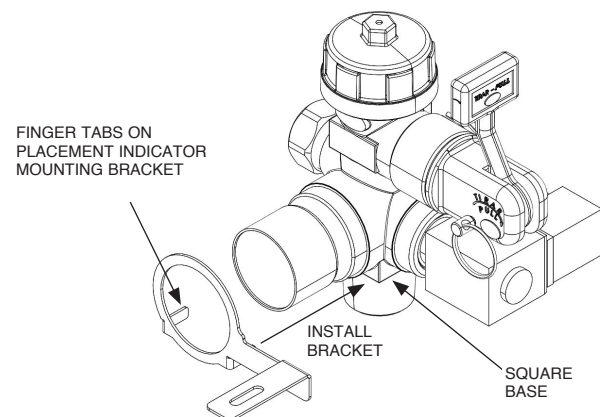

FIGURE 6-51
2. Install the placement indicator mounting bracket. See Figure 6-51 and Figure 6-52.